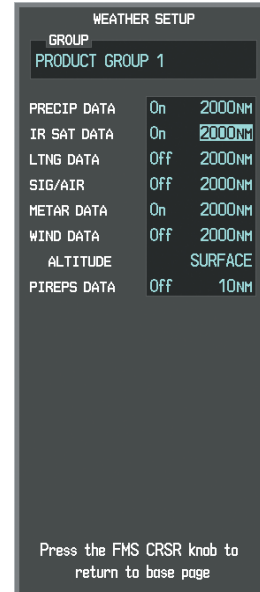

Figure 6-60 Weather Data Link (CNXT) Page Setup Menu
- 4) Turn the small **FMS** Knob to select 'PRODUCT GROUP 1' or 'PRODUCT GROUP 2', and press the **ENT** Key (Figure 6-60).